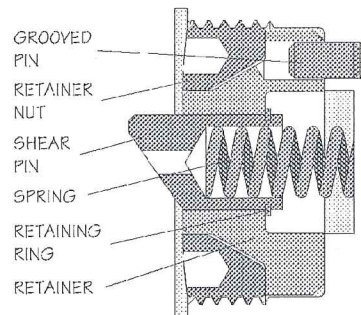

Figure 24. Detail of a shear pin assembly layout
- b. Lightly grease and install the new shear pin assembly. Install the shear pin with the tapered side facing down and the flat side facing up. Refer to **Figure 24**.